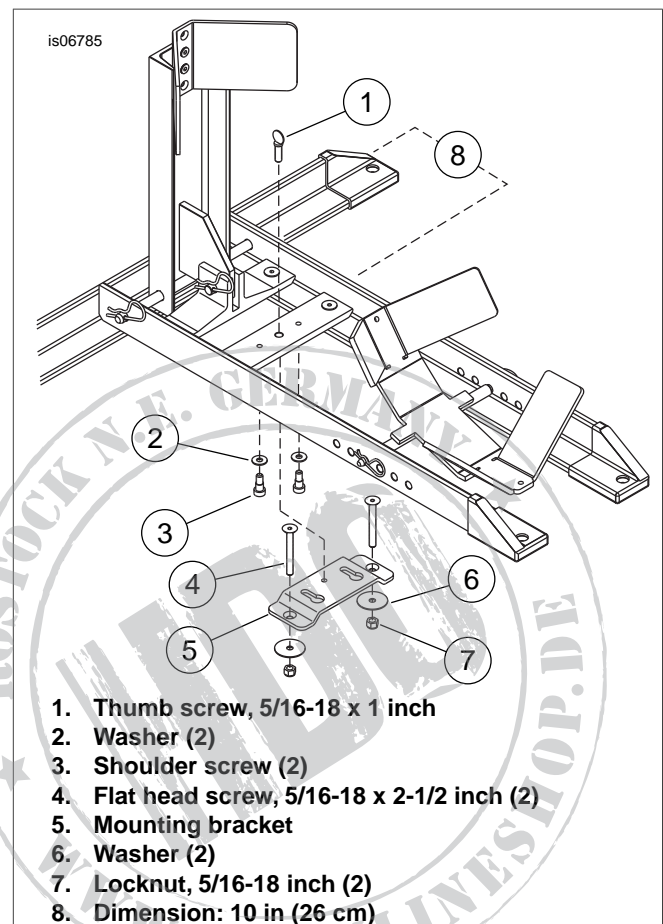

Figure 2. Trailer Mounting Kit (Sold Separately)
1. See Figure 2. Install shoulder screws (3) to the wheel chock as shown. Do not use washers (2) at this time. Tighten screws to 18 ft-lbs (24.4 Nm).
2. Locate the trailer bracket (5) as follows:
- a. The bracket mounting location must be at least 10 in (26 cm) (8) from the front of the trailer or any obstruction on the mounting surface that would interfere with the placement of the wheel chock.